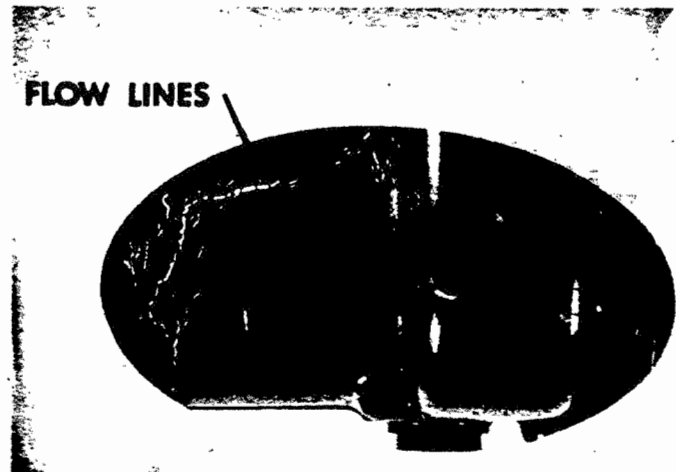

Figure 711. Acceptable Flow Lines
- A. Flow lines, stress relief fissures and cracks may be noted on some housings (72), cover (6), and flange (56). Exhaustive vibration tests have been conducted on magnetos exhibiting the characteristic lines. In no instance did the initial lines or fissures progress. These particular lines, fissures and cracks should be judged for acceptability using Figures 711 through 718.
- B. Flow lines may appear in various areas of the housing (72) as illustrated in Figures 711 through 713.